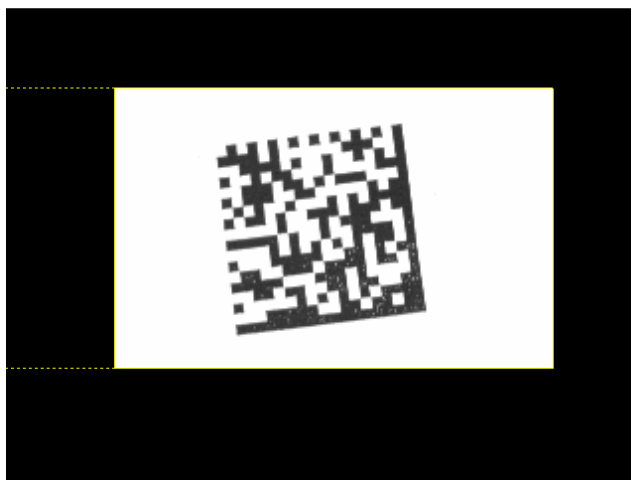

Figure 7: Partial acquisition window for 530 and 540 systems
**Note: For the 520 system, the digitized area will correspond to the partial image coordinates specified by the user. On the 530 and 540 systems, the area to the left of the image window will still be digitized as it is shown in Figure 7 with the dotted lines.**